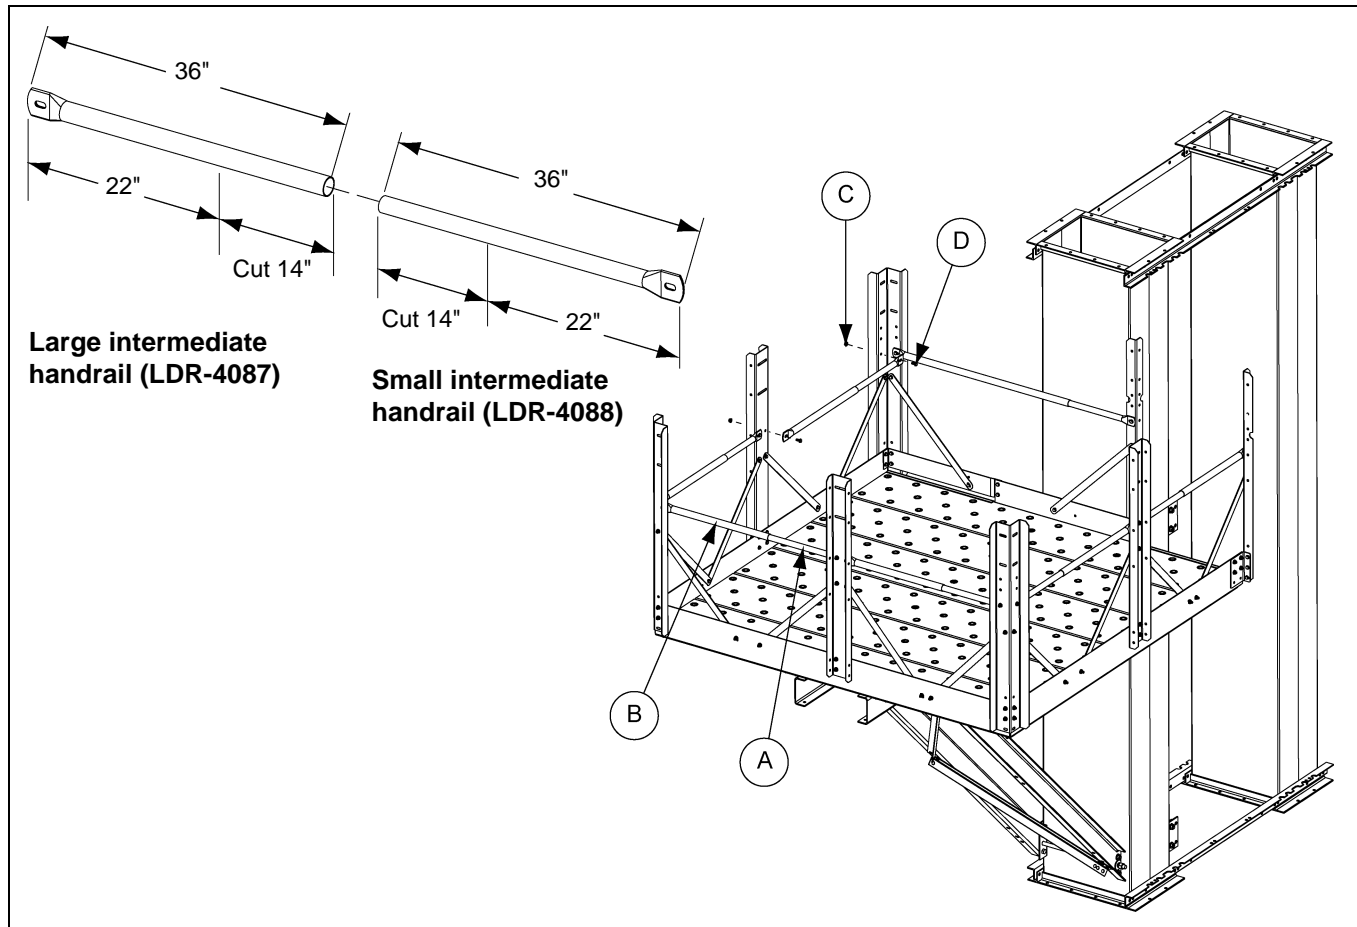

Figure 13J
Trim six (6) large and six (6) small rails by 14" each so that the remaining length of each rail, both small and large is 22". (See Figure 13J.)
1. Install these rails across the platform and the opposite side as shown in Figure 13J.
2. Insert one small rail inside of one large rail and telescope the joined rails from the "W" corner post to the platform post as shown in Figure 13J.
3. Attach to "W" post (corner post) and platform post using nuts (S-3611) (C) and bolts (S-6606) (D). Torque to standard specifications.